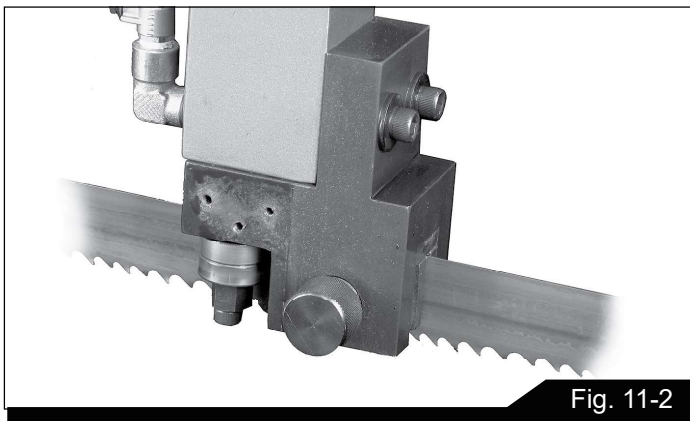
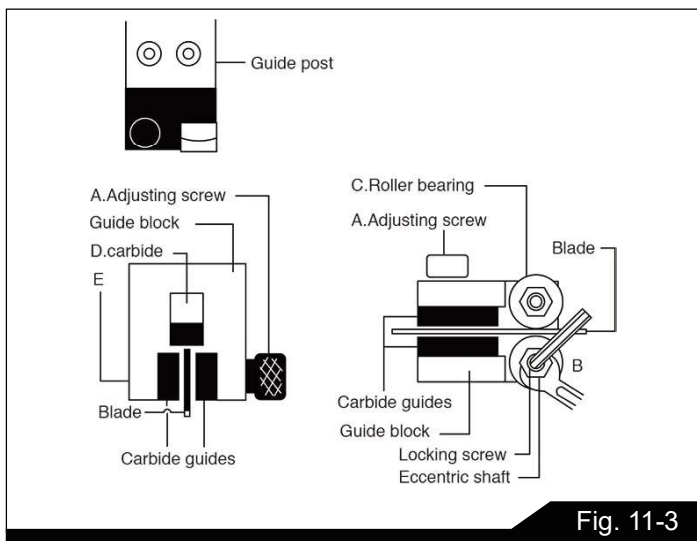

Fig. 11-2
Fig. 11-3
5. Remove the two red blade guards, and back off the carbide guides by turning the knurled adjustment screws (see A Fig. 11-3).
Fig. 11-2 shows the left hand blade guide assembly; Fig. 11-3 shows the right hand. Adjustments for both are identical.
The back of the blade should ride against the upper carbide guide (D, Fig. 11-3) which is positioned to provide greater support and prevent deflection at the back of the blade.
The front and rear roller bearing guides are mounted to eccentric shafts. Loosen the locking screws with a 6mm hex wrench and turn the eccentric shaft with a 17mm open end wrench until the bearing just contacts the blade. See Fig. 11-3 Retighten the locking screw while holding the eccentric shaft with the wrench to prevent it from turning.